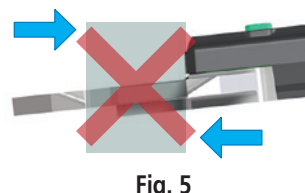

Fig. 5
3. Avoid cosine error by rocking and/or rotating the caliper to ensure measurement faces are contacting completely and are not tilted. (**Fig. 5**)